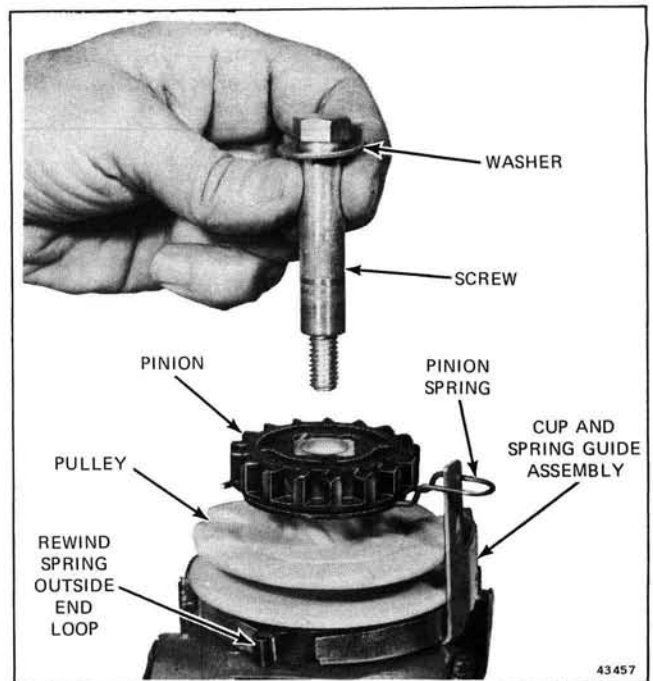

Figure 8-5. Removing Screw, Washer and Pinion
2. Remove mounting screw and washer. See Figure 8-5.
3. Remove pinion spring and pinion from pulley. See Figure 8-5.
8. Install pinion and pinion spring on pulley. See Figure 8-5.